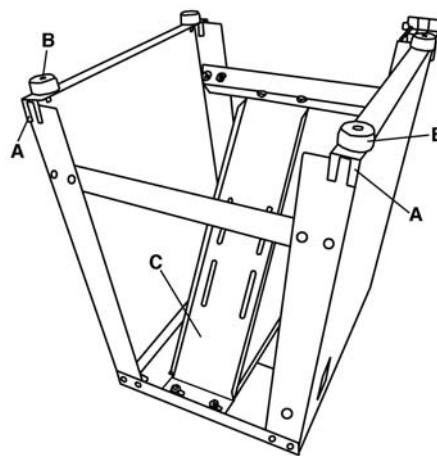

FIGURE 5
Rubber feet- Place the 4 rubber feet brackets (A) Fig.5 on the stand corners, then install the rubber feet (B) using hex. bolts and hex. nuts.
Motor mount- Assemble the motor mount bracket (C) Fig.5 to the stand. Fix one end to the stand top and the other end opposite side brace.